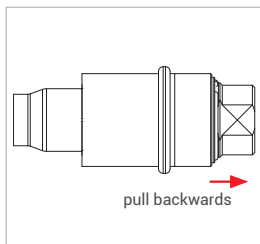

Figure 7
- ▶ Pull gently on the lower part (Pos. 2) of the connector (red arrow Figure 7) in the direction opposite that of the connection to make sure that the connector is properly connected.